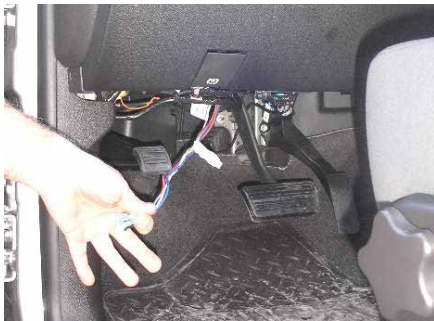

Figure 2
2. Pull the trairing harness wire down (Fig. 2)